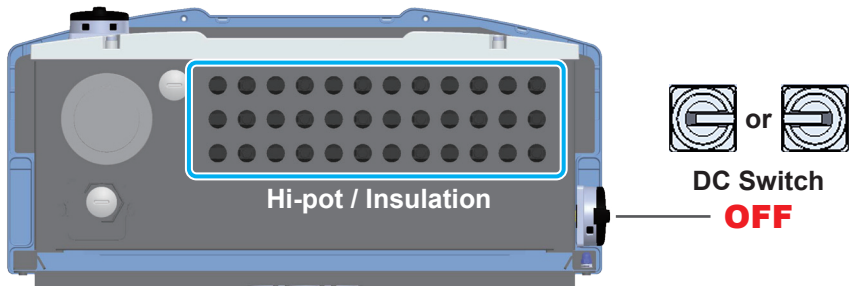

Figure 3-30: Precautions for on-site insulation test
2. Apply one probe to the positions shown in **Figure 3-30**, the other to the ground. It might cause damages to the inverter if probes are applied to inappropriate positions.